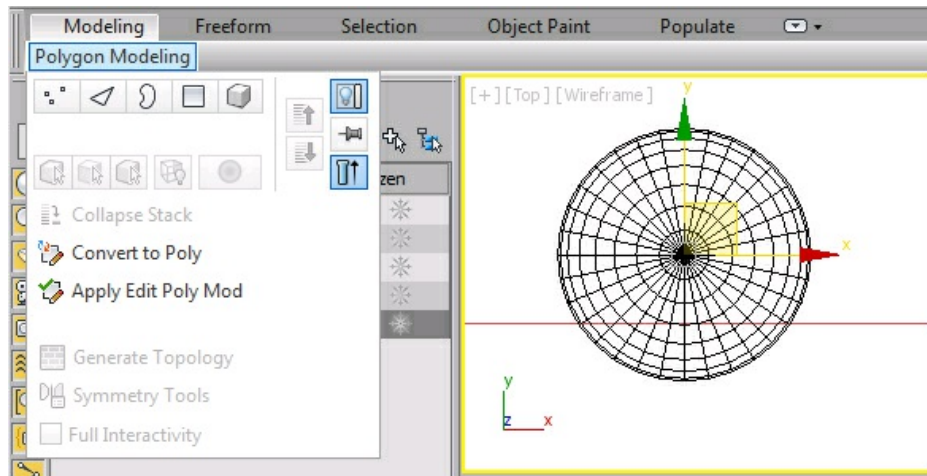

Figure 8-46 Flyout displayed after moving the cursor over the **Polygon Modeling** panel
3. Create an object and select it in the viewport. Next, move the cursor over the **Polygon Modeling** panel in the **Graphite Modeling Ribbon**; a flyout will be displayed, as shown in Figure 8-46. Choose the **Convert to Poly** option; the selected object will be converted into editable poly.